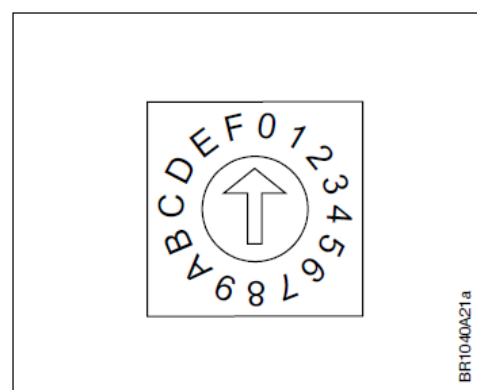

Fig. 11-10: rotary switch position
As illustrated in fig. 11-10, the rotary switch inside the sensor housing must be set to the "0" position to ensure the Modbus ID/address (89) required in connection with the HMI3. Further information can be found in the enclosed operating instructions.